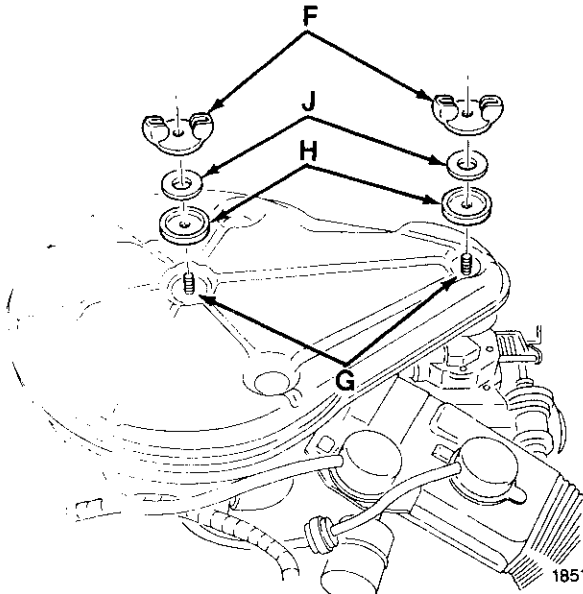

Fig. 3
1. Remove air cleaner wing nuts (F-Fig. 3).
2. Install grommet (H-Fig. 3) and flat washer, (J-Fig. 3) on each air cleaner stud.